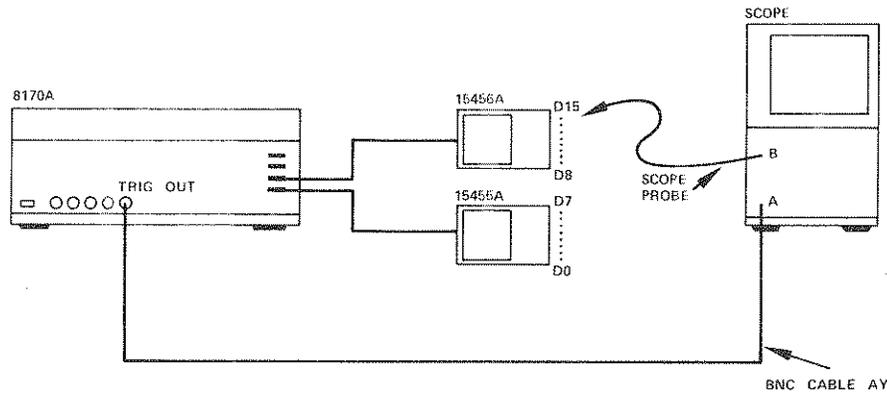

Figure 4-1. Test Setup for Data Output Function Test
1. Connect the equipment as shown in Figure 4-1.